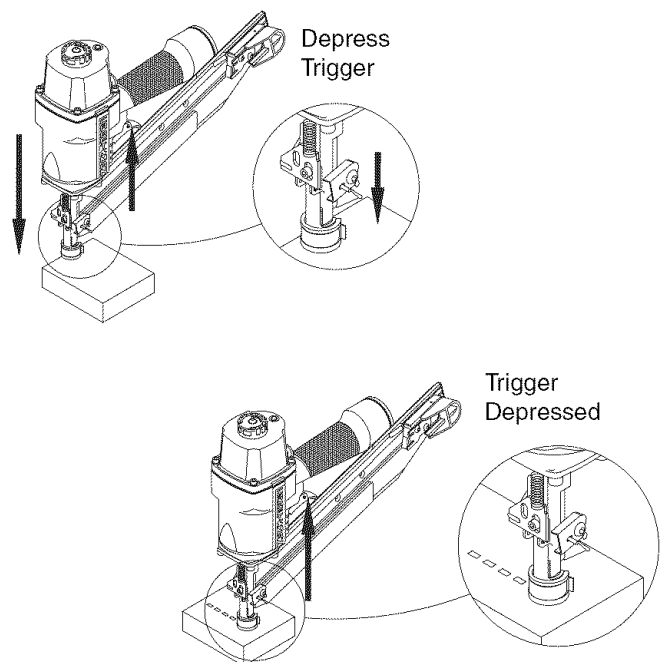

Figure 3 - Contact Trip Operation
Refer to Figures 3 & 5 (pages 3 and 6)
- The air tool is equipped with a contact trip safety mechanism (see Figure 3, page 3) that disables tool unless contact trip is pushed against work. Hold body firmly and press contact trip on workpiece where fastener is to be applied. Pull trigger to drive fastener into workpiece.